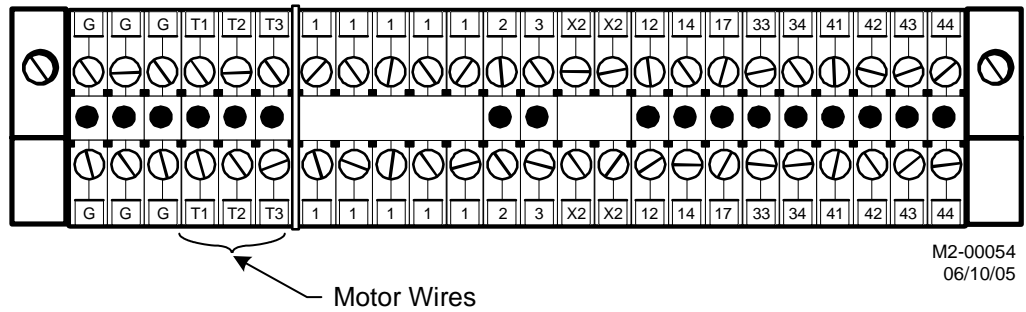

Figure 3-14: Connections for Motor Wires on Terminal Block
2. Swap any two of the motor leads on the terminal box. See Figure 3-14.